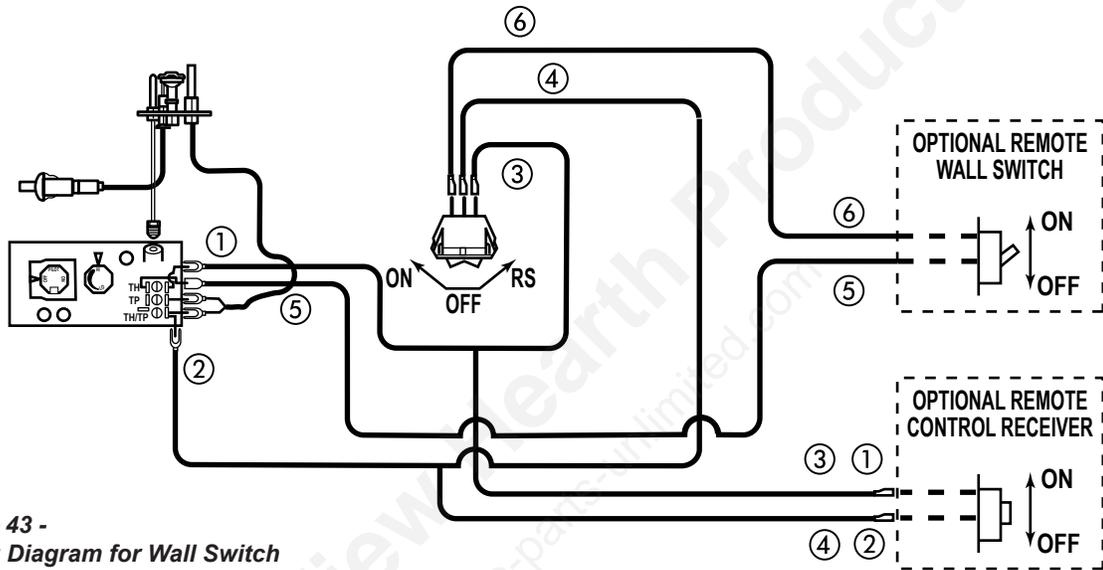

Figure 43 - Wiring Diagram for Wall Switch
A remote wall switch and up to fifteen (15) feet of 18 Ga. wire may be used with this appliance. Attach the wall switch in a junction box at the desired location on the wall. *Figure 43.* Do not extend beyond the wall switch wire length provided.
3. Connect the wire terminal from the remote receiver. *Figure 43*